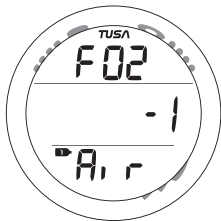

Fig. 82 - GAS 1 PREVIEW
**Gas 1 Switch Preview** information includes (Fig. 82) -